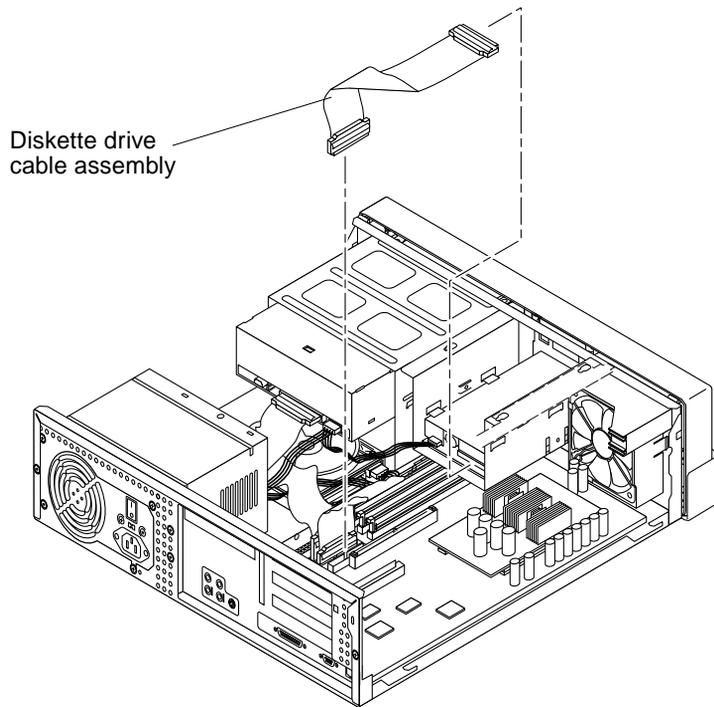
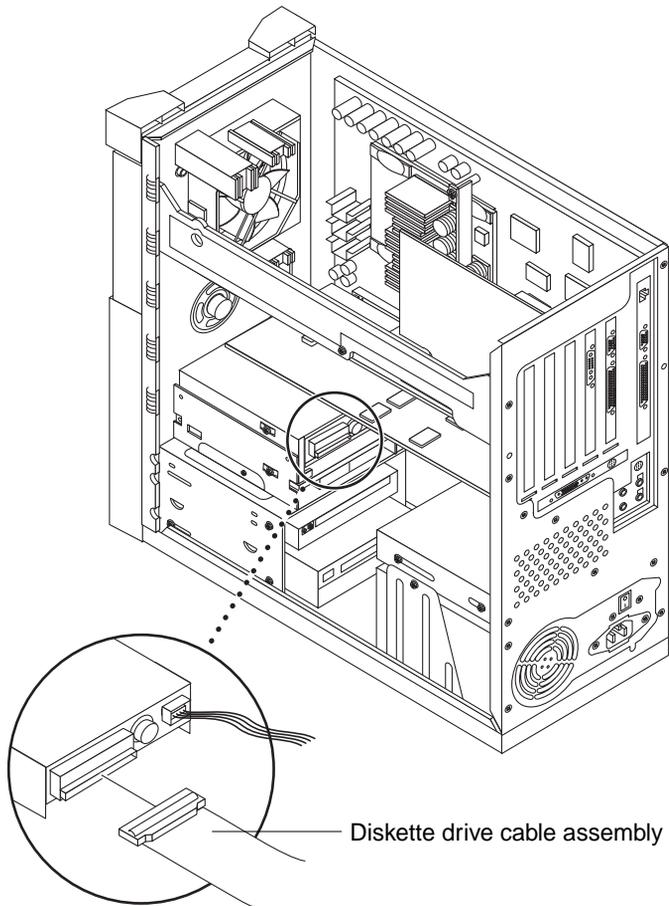

FIGURE 8-3 Removing and Replacing the Diskette Drive Cable (Ultra 5)
FIGURE 8-4 Removing and Replacing the Diskette Drive Cable (Ultra 10)
4. Remove the diskette drive cable assembly connectors from the following (FIGURE 8-3 or FIGURE 8-4):
1. **Replace the diskette drive cable assembly as follows (FIGURE 8-3 or FIGURE 8-4):**